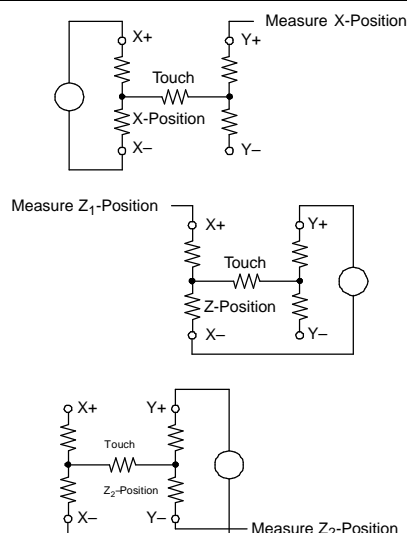

Figure 46. Pressure Measurement
Measuring touch pressure (Z) can also be done with the TSC2300. To determine pen or finger touch, the pressure of the touch needs to be determined. Generally, it is not necessary to have very high performance for this test, therefore, the 8-bit resolution mode is recommended (however, calculations are shown with the 12-bit resolution mode). There are several different ways of performing this measurement. The TSC2300 supports two methods. The first method requires knowing the X-plate resistance, measurement of the X-Position, and two additional cross panel measurements (Z2 and Z1) of the touch screen (see Figure 46). Using equation 1 calculates the touch resistance: